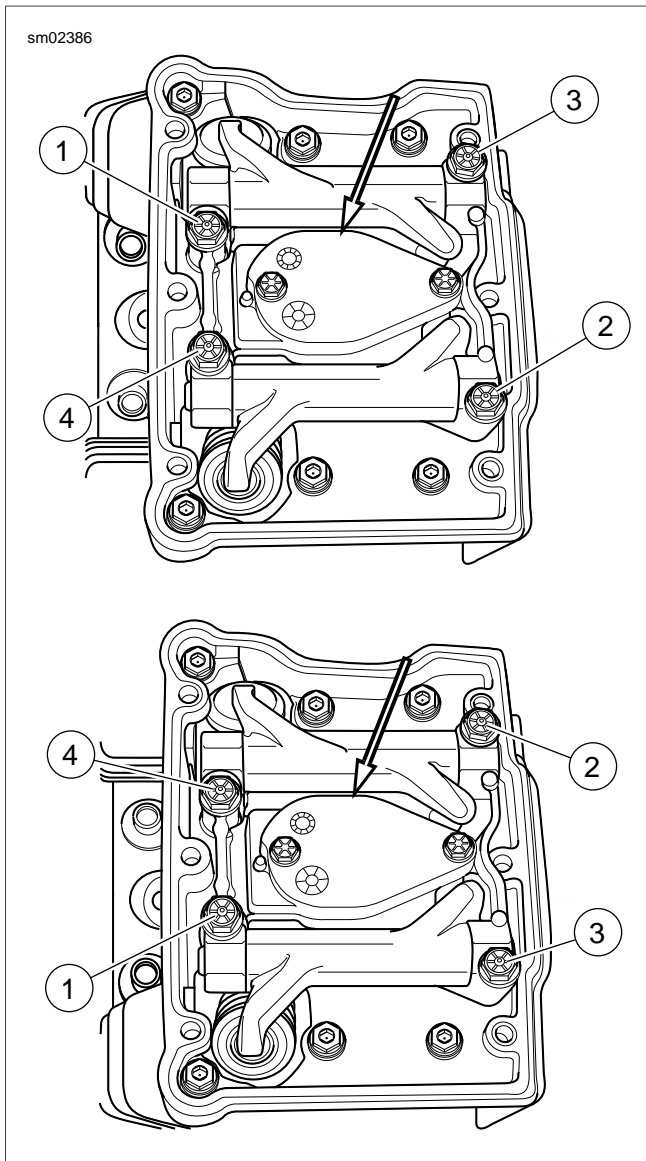

Figure 3-16. 1/4 Turn Rocker Arm Bolts in Sequence
5. See Figure 3-16. Remove two bolts to release breather assembly (arrow) and filter element from the rocker arm support plate. For inspection and repair information, see 3.20 BREATHER ASSEMBLY.